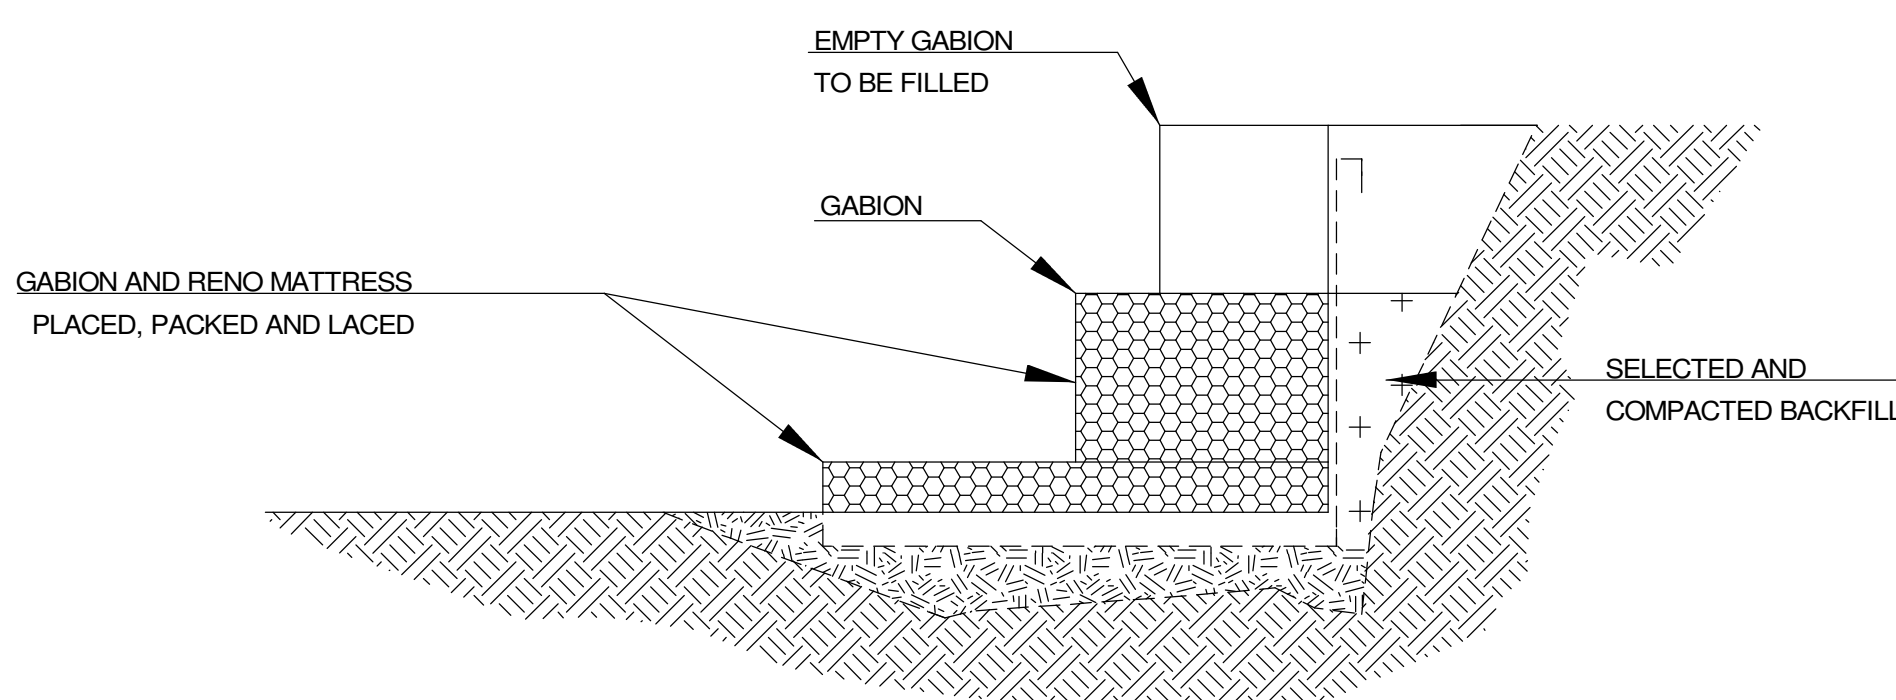

FIGURE 11
1. COMPACTION OF THE BACKFILL MUST BE DONE SIMULTANEOUSLY WITH EVERY ROW OF GABIONS Laid IN MAXIMUM 200mm LAYERS (FIGURE 11). CARE MUST BE TAKEN NOT TO DAMAGE THE GEOTEXTILE DURING PLACING AND COMPACTING OF THE BACKFILL. ONLY SMALL HAND HELD COMPACTION EQUIPMENT MAY BE USED ADJACENT TO THE GABION BASKET UP TO A DISTANCE OF 1m.